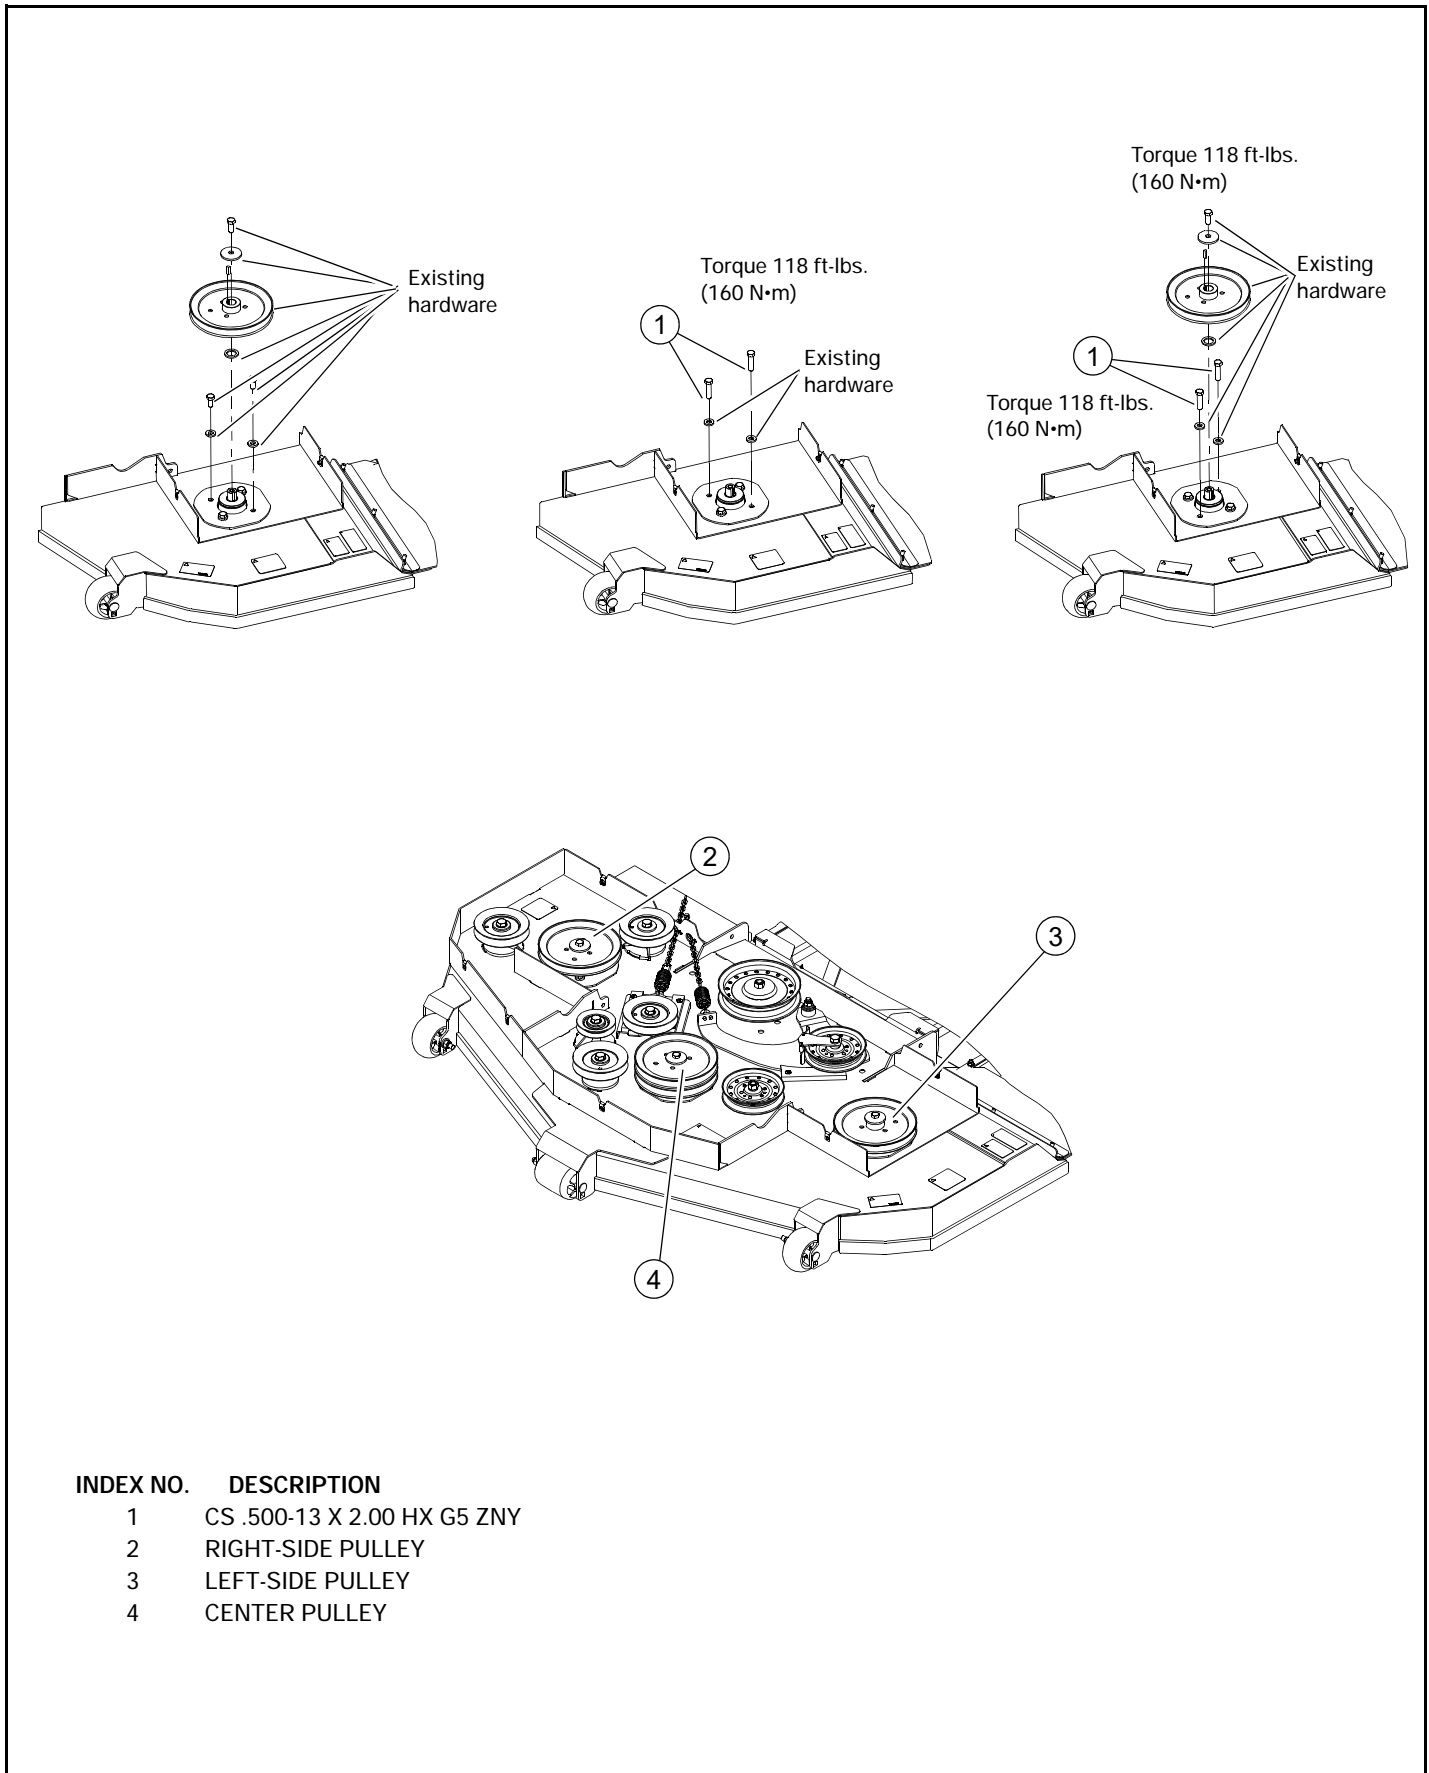

FIG. 1
6. Working with one pulley at a time, remove and retain the spindle top cap screw, pulley, any spacers and the hardware to gain access to the spindle. Fig. 1
7. Remove only two of the existing spindle cap screws at a time (to keep the spindle in place) and replace them with the provided cap screws. Reuse the existing flat washers. Fig. 1
10. Replace the spindle top cap screw, pulley, any spacers and the hardware removed in step 6. Fig. 1
12. Repeat steps 7 through 11 for the other two pulleys. Fig. 1